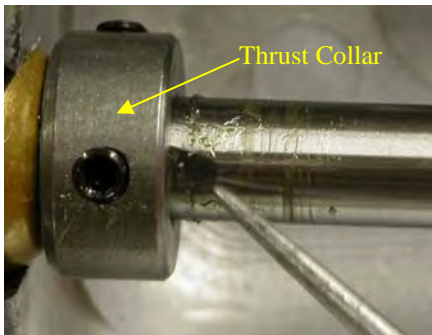

Figure 3.2
**NOTE:** *The thrust collar flat is inclined. The first screw (shown in Figure 3.2) must be provisionally tightened. The second screw is then fully tightened. The first screw is then fully tightened. It is important to check that this collar tightening procedure did not create a tight arm shaft condition. If so, readjust the collar again.*